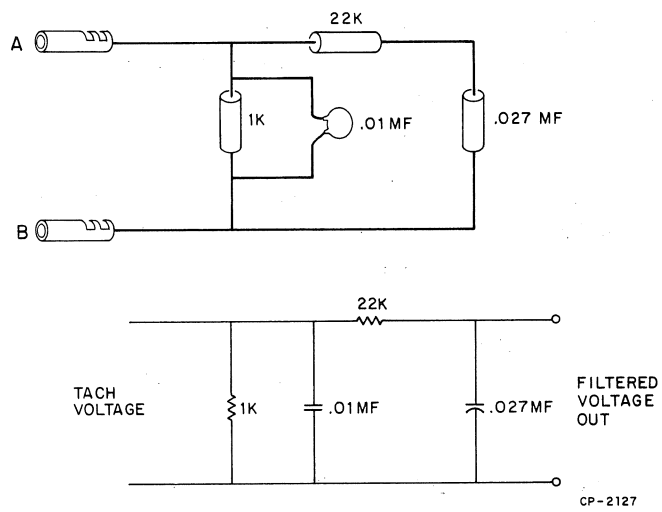

Figure 5-63 Tachometer Filter Circuit
- 2. Tachometer filter circuit (Figure 5-63).
4. Connect the +5 jumper to the red motor lead, the GND jumper to the black motor lead. Connect filter lead A (Figure 5-63) to red tachometer lead, and filter lead B to black lead. Connect scope probe and ground strap across the 0.027 mF capacitor (Figure 5-63).